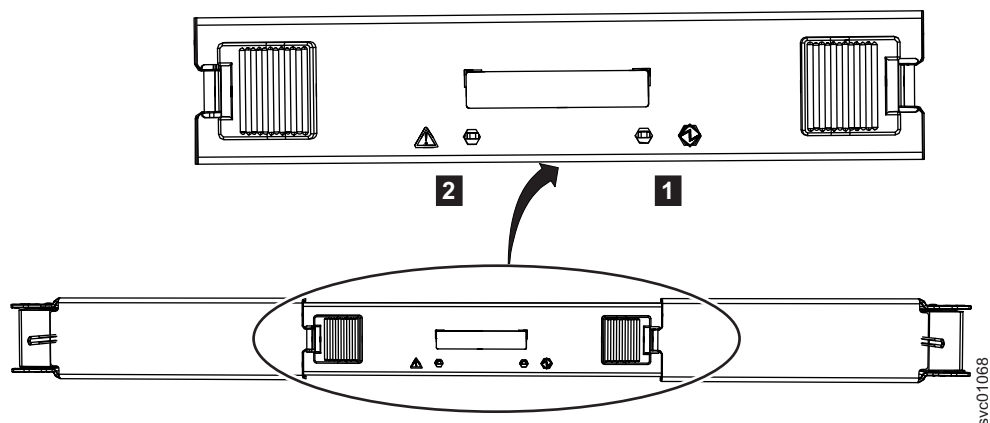

Figure 84. LEDs on a secondary expansion module
2. Identify the secondary expander module to be replaced; Figure 84 on page 88 shows the LEDs on top of a secondary expansion module.